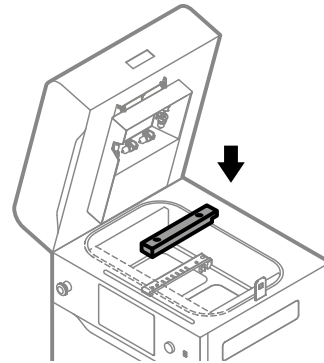

Fig. 10.6 Reinstall the black Recoater cover.
10. Clean and reinstall the black Recoater cover (fig. 10.6).